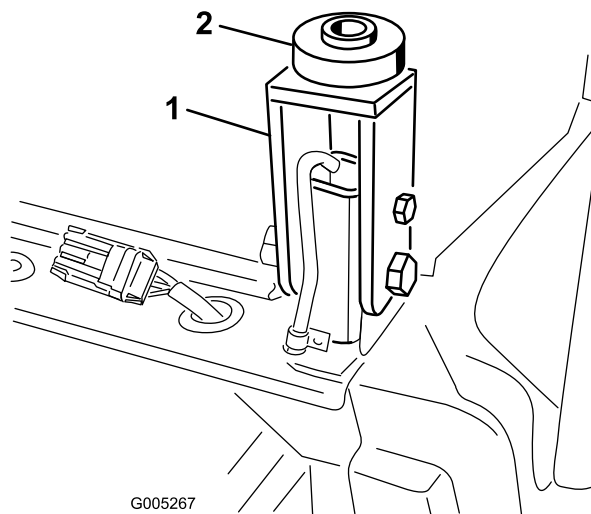

Figure 23
10. Insert a rubber mount onto each cab mount at the rear-mounting locations (Figure 23).